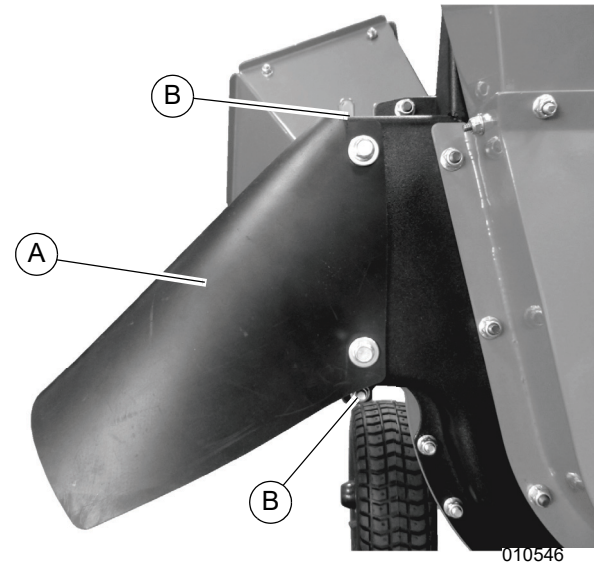

Figure 3-3. Installing Collection Bag (1 of 2)
1. See Figure 3-3. Install the open end of the collection bag over rubber discharge deflector (A) and hook the collection bag onto metal housing tabs (B) above and below the discharge deflector.